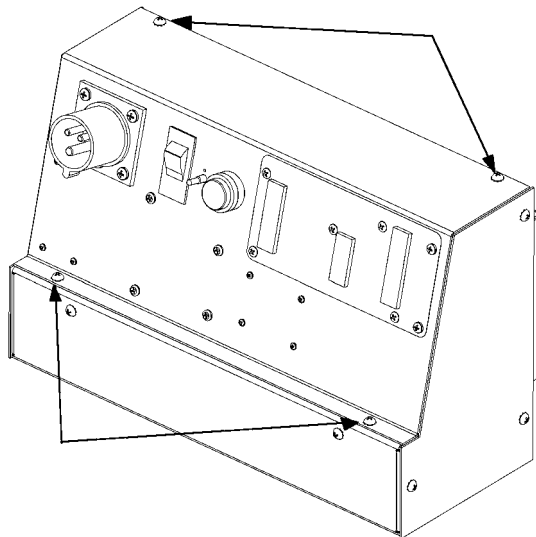

Figure 4-18
2. Remove the top and front screws of the top panel of the control enclosure, as shown in Figure 4-18 (arrows). Set aside the screws.